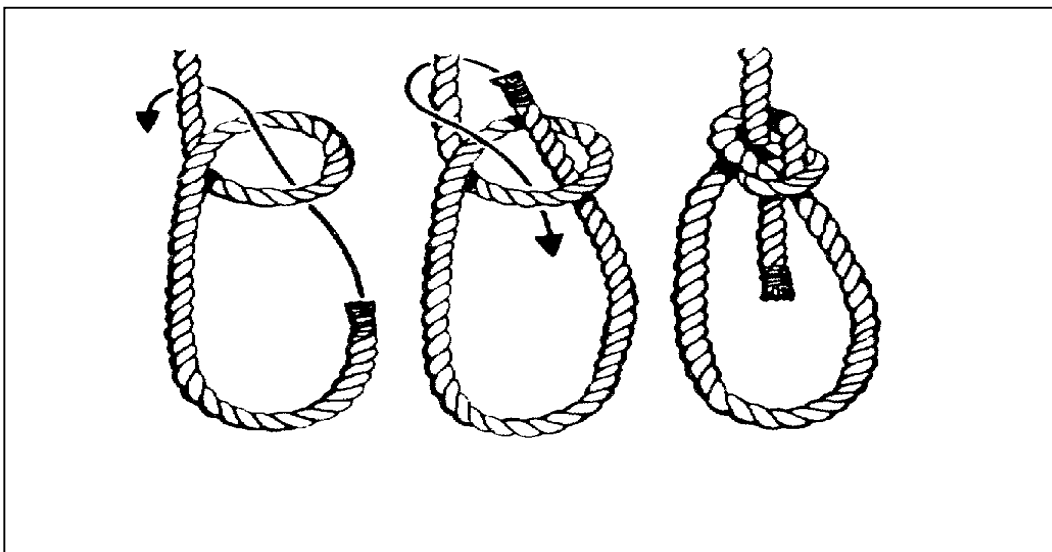

Figure 11-3. Bowline Knot
e. Bowline Knot. The bowline knot (Figure 11-3) is used to form a loop that will not tighten or slip under strain, yet will untie easily.